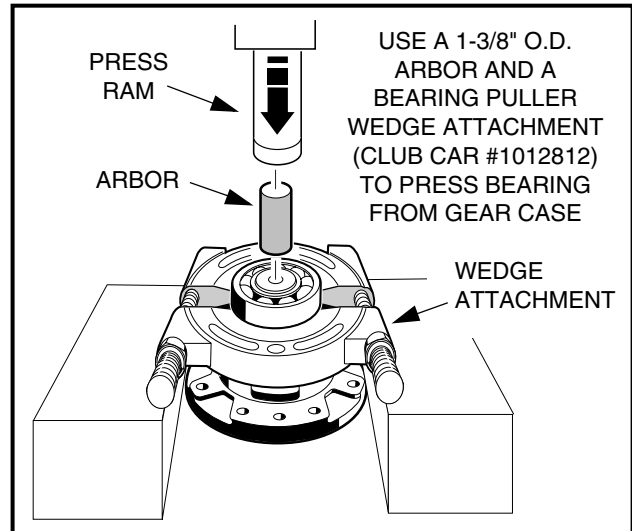

FIGURE 10-48
6. If the bearings (79) are to be removed, place a bearing puller wedge attachment (Club Car Part No. 1012812) between the bearing and carrier casing (84) and press the bearing off as shown (**Figure 10-48, Page 55**). Repeat the process for the carrier cover (87) (**Figure 10-6, Page 39**).